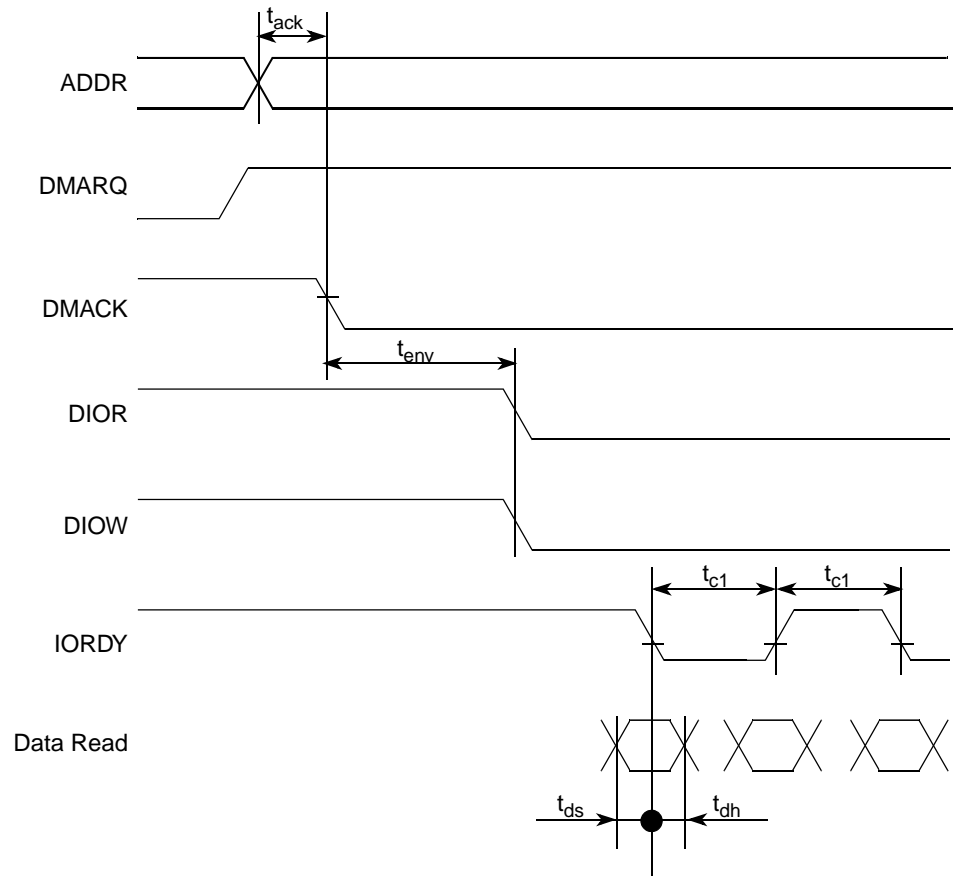

Figure 30. UDMA In Transfer Start Timing Diagram
- Figure 30 gives timing for UDMA in transfer start